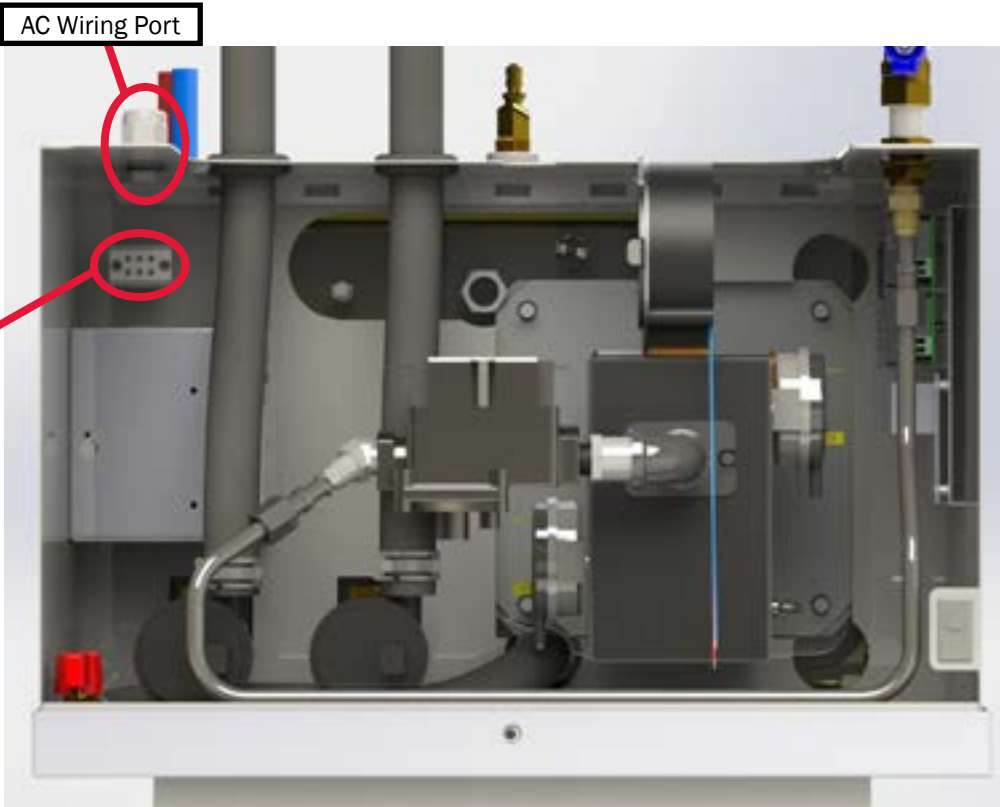

Figure 71
1. Route and insert three 120V AC power source wires into the AC terminal block through the AC wiring port's cable clamp fitting and into the proper terminal. Reference Figure 71 and the schematic on page 45.